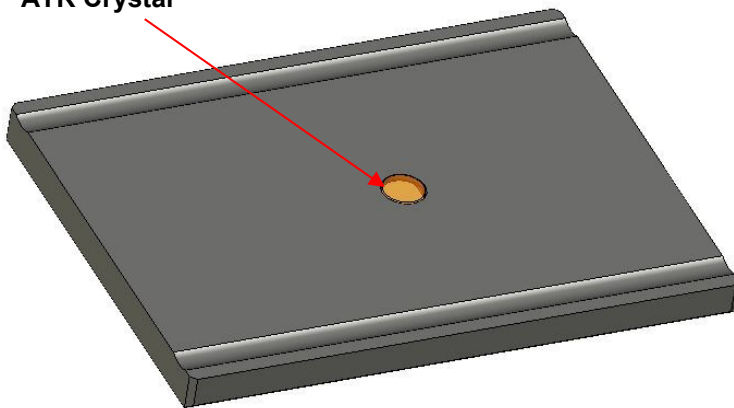
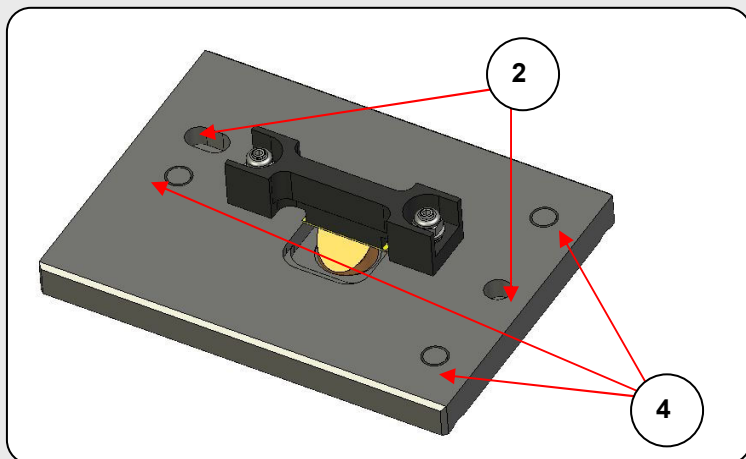
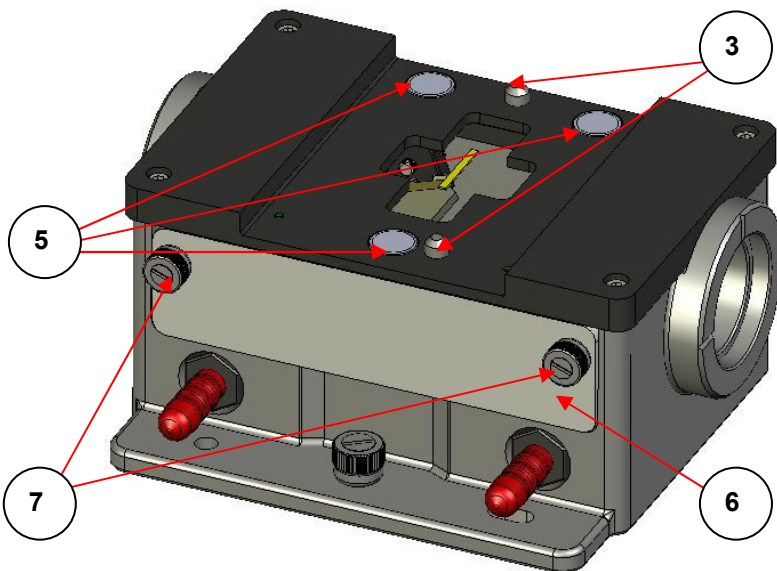

Figure 2. Top view of Silver Gate™ ZnSe Flat ATR Crystal Top Plate Assembly
Figure 4. Underside view of Silver Gate™ ZnSe Flat or Recessed ATR Crystal Top Plate Assembly
Figure 5. Top view of Silver Gate™ Optical Unit without Bridge
The flat and recessed ATR crystal top plate assemblies are fitted to the top plate area of the Silver Gate™ optical unit by location holes (2) to location pins (3) and held in place by magnetic catches (4) to counter plate fixings (5). (Please see Figures 2, 3, 4 and 5.) Top views of the flat and recessed ATR crystal top plate assemblies using the ZnSe crystal as examples are Figures 2 and 3. (Ge and Si top plates are similar.) The underside view of either the flat or recessed ATR crystal top plate assembly is shown as Figure 4. The top surface (without bridge) on the optical unit where to fit the ATR top plates is shown in Figure 5.
With an ATR crystal top plate assembly in position on the optical unit and when the whole is installed in the spectrometer on an appropriate Benchmark™ baseplate, the Silver Gate™ Accessory can be finely aligned. The optical unit cover plate (6) is removed by undoing the cover plate thumb screws (7) (see Figure 5.) to gain access to the mirror adjustment screws (8) and (9).